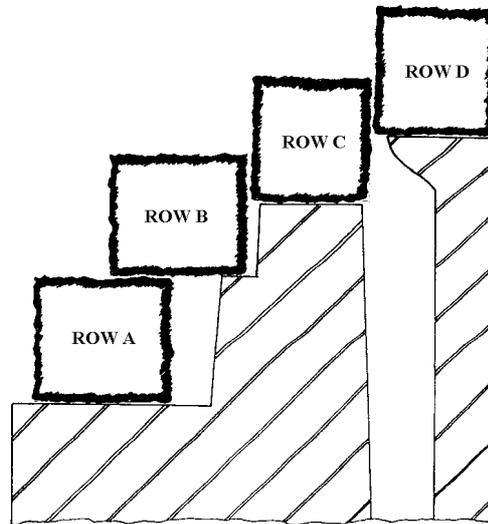

Figure 15
12.2 With reference to Figure 15, lay the coals as follows :-